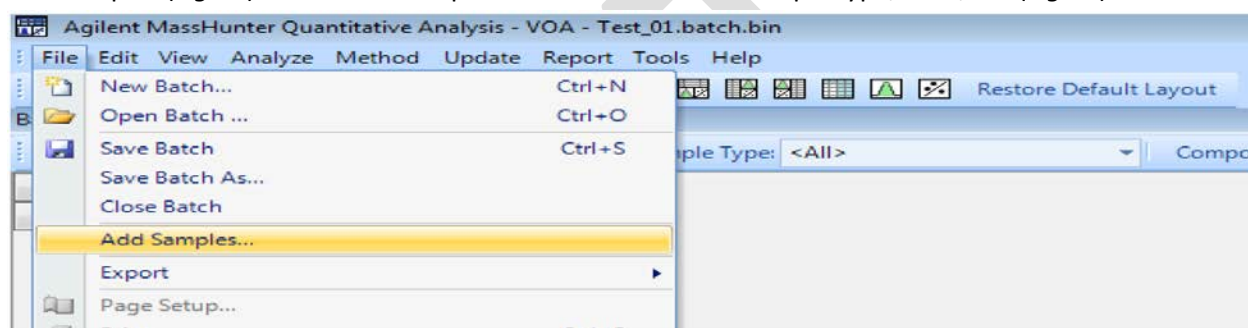

Fig.12
- c. Add samples (Fig.12). Check and complete the information of sample type, level, etc.(Fig.13)